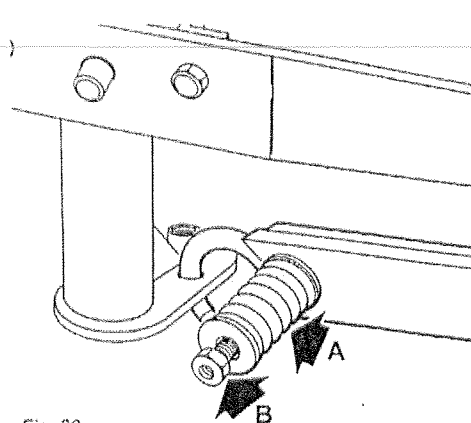

Fig. 30
- The mower is fitted with a safety device for protection against obstacles. If this device is tripped by impact with an obstacle, stop the tractor without raising the cutting arm. Check that the universal joint has not become separated, if so, reassemble it. If the tie rod releases easily, adjust spring (A, Fig. 30) using nut (B, Fig. 30) which should be tightened half turn at a time.